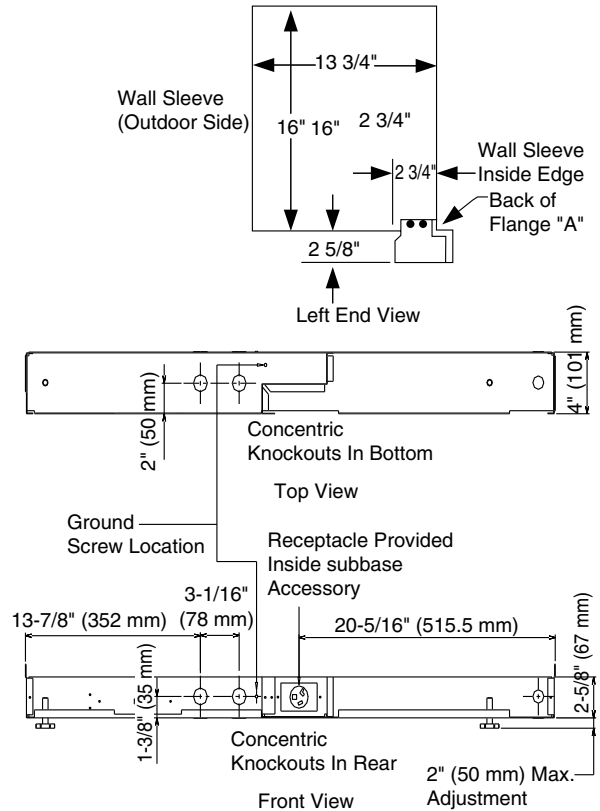

Figure 56 - Wiring Diagram
7. Wire subbase for appropriate voltage (Figure 56, next page).